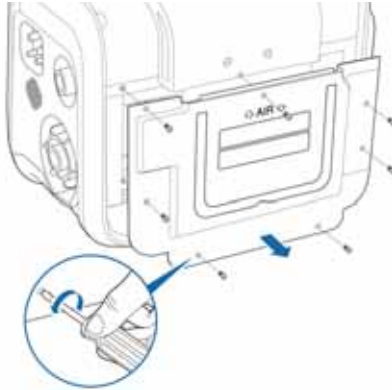

Figure 11-3. Removing the cover
1. Remove the seven (7) screws shown below on the rear panel of the device to remove it. See Figure 11-3.